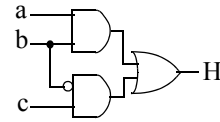

Figure 2.80
- 2.51 Determine whether the Boolean function  $G = a'b'c + ab'c + abc' + abc$  is equivalent to the function represented by the circuit in Figure 2.80.